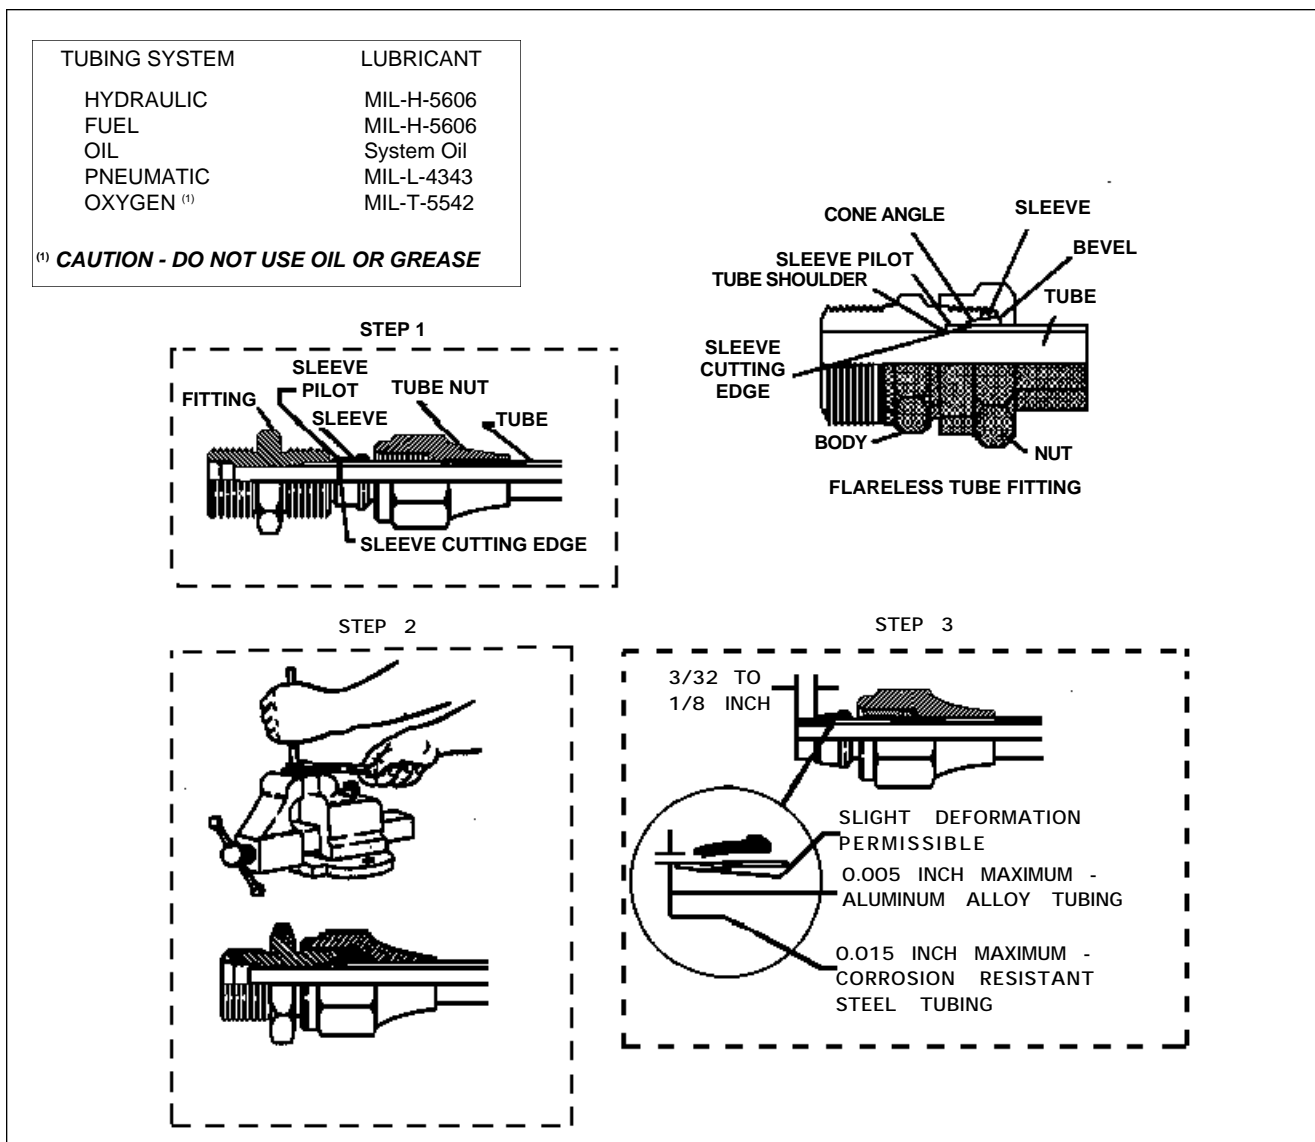

Figure 20-5. Flareless Tube Fittings
E. FLARELESS TUBE ASSEMBLIES. (Refer to figure 20-5.)
2. Lubricate threads of fitting and nut. See figure 20-5 for proper lubricant. Place fitting in vise (step 2), and hold tubing firmly and squarely on seat in fitting. Tube must bottom firmly in fitting. Tighten nut until cutting edge of sleeve grips tube. This point is determined by slowly turning tube back and forth while tightening nut. When tube no longer turns, nut is ready for final tightening.